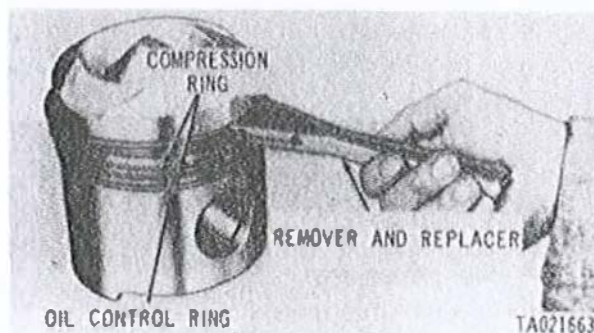

Figure 3-181. Removing or installing piston compression rings using remover and replacer.
a. Check to see if compression rings and oil control ring are free in piston grooves before removal. Mark ring grooves of sticking rings for further detailed inspection. Place jaws of remover and replacer Part No. 7950177 in the end gap of upper piston ring (fig. 3-181). Spread ring, lift out of groove, and remove from piston. Mark rings for identification showing piston number and groove location. Remove two intermediate compression rings and oil control ring in the same manner.
c. Inspect compression ring (11) and (12), and oil control ring (10) for scuffing, scoring, chipping, scratches or abrasions. Pay particular attention to those rings which were found to be sticking in the piston ring grooves. Install the three lower rings in their original position and check side clearance as described in (1) through (4) below.
(1) Insert remover and replacer Part No. 7950177 in end gap of ring (fig. 3-181) and install oil control ring in bottom piston ring groove. Install two intermediate compression rings in the same manner.